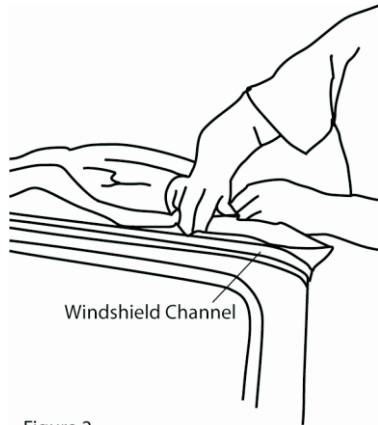

Figure 2
Step 7. Insert front plastic into the groove of the Windshield Channel. The ends will match nearly to each end of the Windshield Channel. From the front of the vehicle, check to make sure that the top is even from side to side. Check the door surround sides and push the top towards the rear to make sure the fabric is seated tightly around the front corners. See Figure 2.